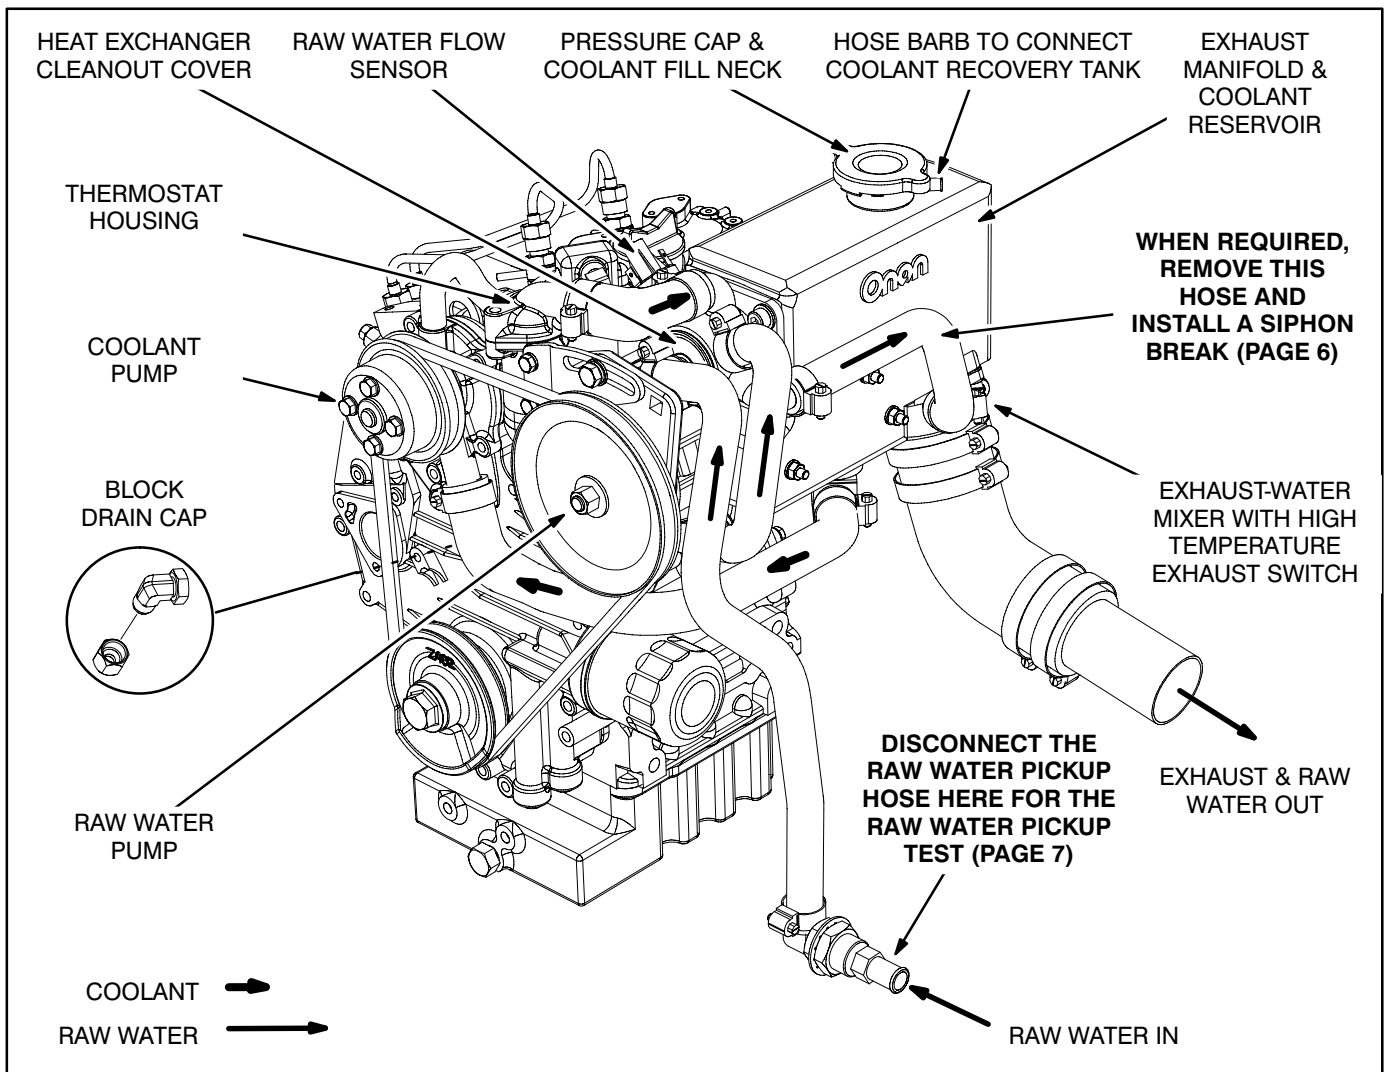

FIGURE 1. ENGINE COOLING SYSTEM
Refer to Figure 1. The engine is cooled by a pressurized, closed-loop liquid cooling system. Coolant is pumped through passages in the engine block, head and exhaust manifold. The exhaust manifold also serves as the engine coolant reservoir.
the engine from being flooded with floatation water. Siphon Break Kit 541-0876 is available if a siphon break is required. Carefully follow the instructions in the kit. The hoses in the kit replace the hose between the engine heat exchanger and exhaust-water mixer (Figure 1). The end panel of the genset has knockouts for the hoses to pass through (Page 21). The kit has the hole grommets. Figures 4 and 5 illustrate typical siphon break installations.
The genset is shipped with a coolant recovery tank kit. Follow the instructions in the kit. *The tank must be accessible for daily inspection and refilling.* Clamp the recovery hose to the hose barb on the coolant fill neck (Figure 1). Route the tank recovery and overflow hoses through the holes in the end of the enclosure (Page 21). Make sure the overflow hose terminates in the drip pan where it will not splash coolant on electrical components. Fill the tank in accordance with the Operator's Manual.
1. Close the sea cock and disconnect the raw water pickup hose from the genset (Figure 1). Alternatively, connect a clear plastic hose to the strainer or sea cock.